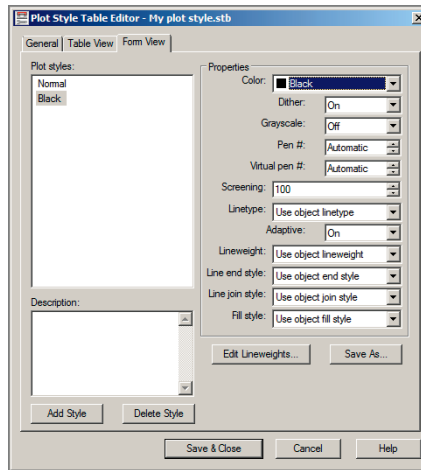

FIGURE 14.3 Creating a Black plot style
8. Open the Color drop-down, and select Black (see Figure 14.3).